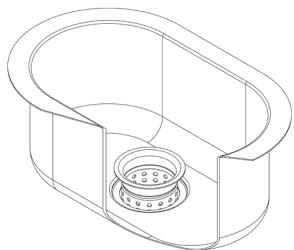

FIG 2
c) Apply a bead of silicone to the recess of the outlet and around the flange of the Scraptrap. Place fixed basket through the 40mm sink outlet as shown in Fig 2